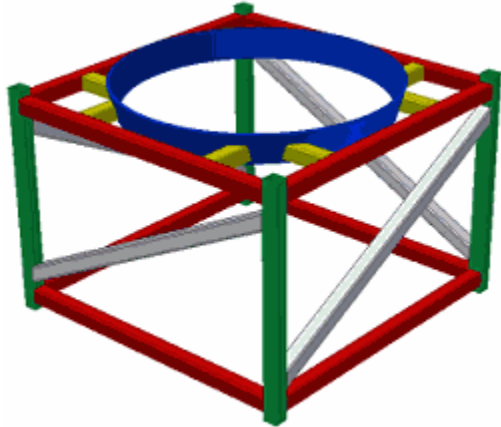

Figure 24: Updated assembly.
7. Click the Update tool on the Command bar. The assembly changes to reflect the smaller sphere diameter. Your assembly should match the one shown in Figure 24.